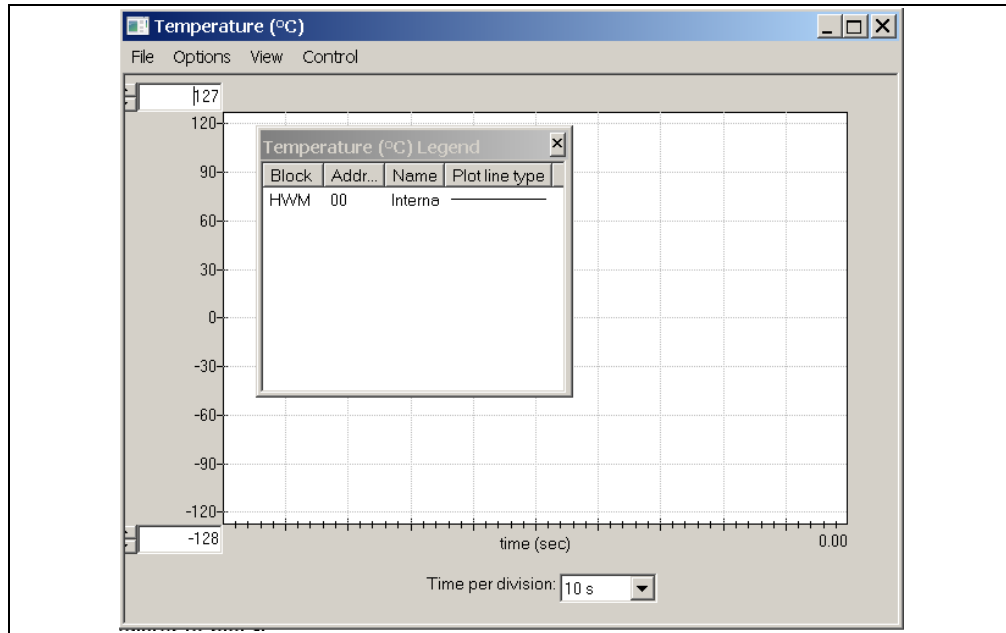

FIGURE 4-2: Register Plot - Temperature Window.
2. Once the desired register is added to plot, a graphic plot window will appear with a legend on top, as shown in Figure 4-2. The two windows can be rearranged independently.